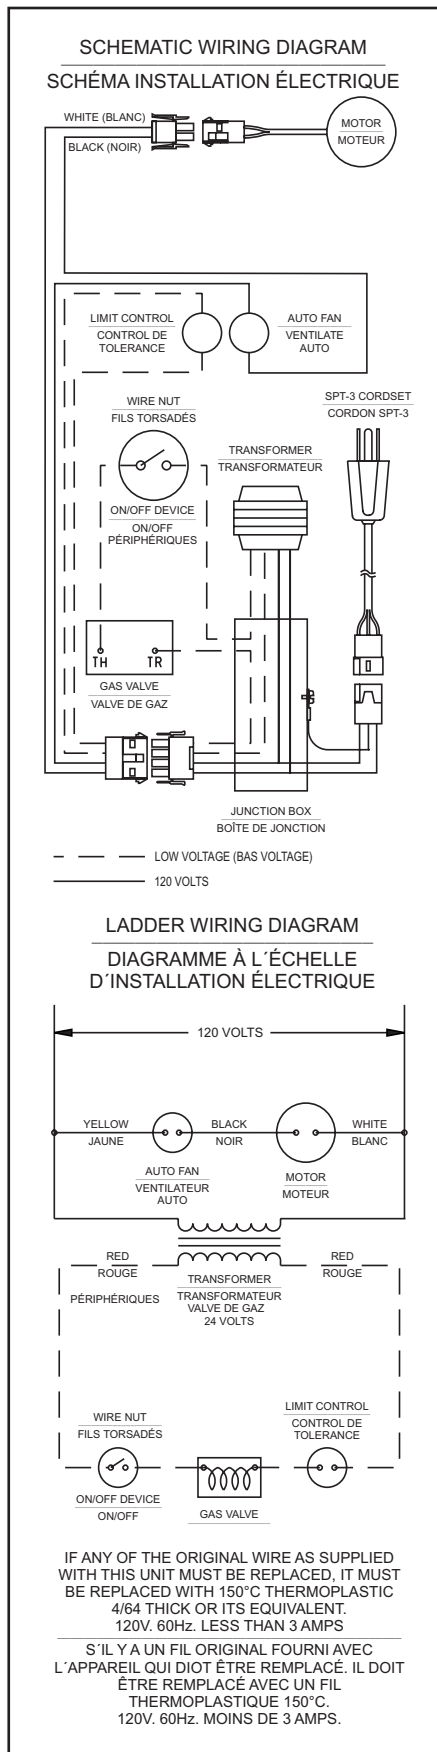

Figure 13
2. To check for line voltage to furnace, remove lower front panel and switch compartment cover and short across two-terminal fan control to allow fan to operate. (Figure 13)